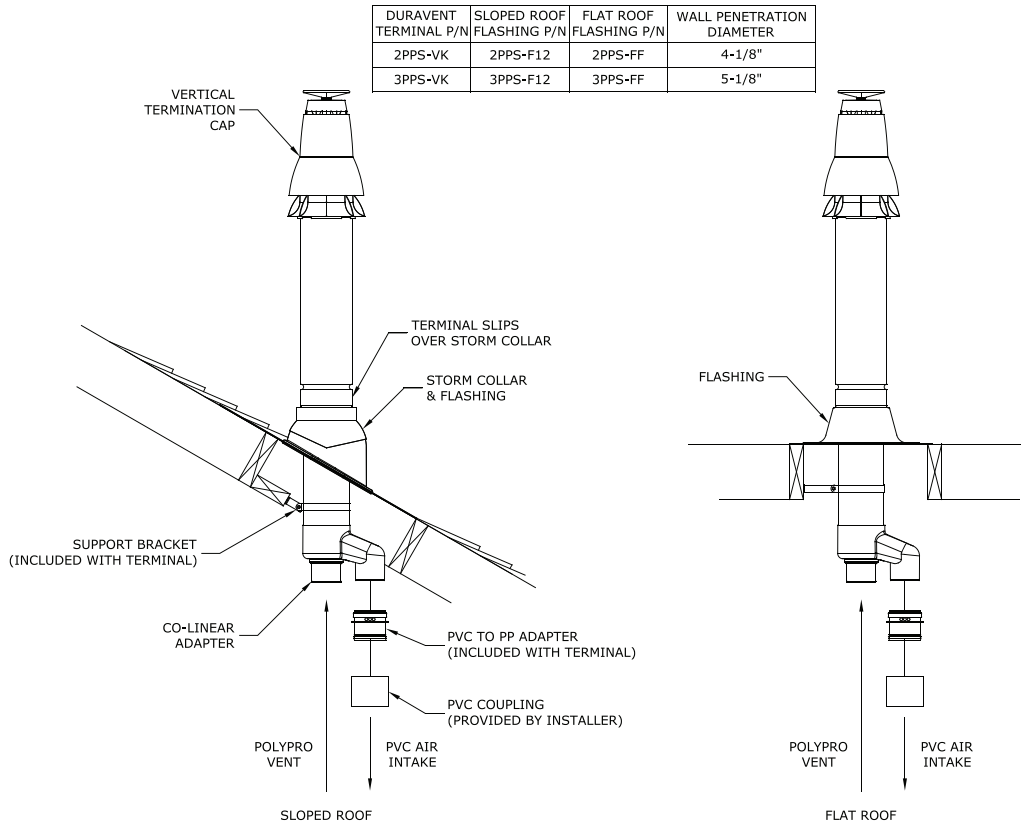

**Figure 7.38: Cutting DuraVent PolyPro Horizontal Concentric Vent Terminal**
- b. If desired, the terminal can be shortened. Mark the desired location of the cut on the outer pipe no closer than 2" from the edge of the tab on the interior wall plate. Prior to cutting outer pipe measure dimension 'A' of the inner pipe as shown in Figure 7.38 and maintain this dimension after cutting the outer pipe. All cuts must be square and de-burred.